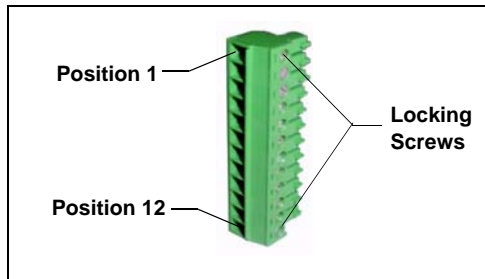

Figure B-43. 12-Position Connector Plug
6. Locate the 12-position connector plug (P/N 923686) in the ICS-1000 Ship Kit (P/N 057905) (see Figure B-43).